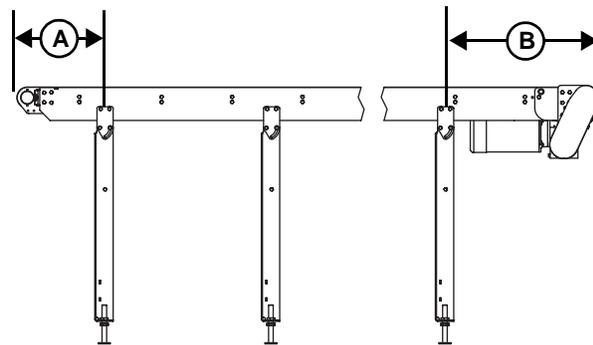

Figure 2
- "A" = 914 mm (36") maximum (See Figure 2)
- "B" = 610 mm (24") maximum (See Figure 2)